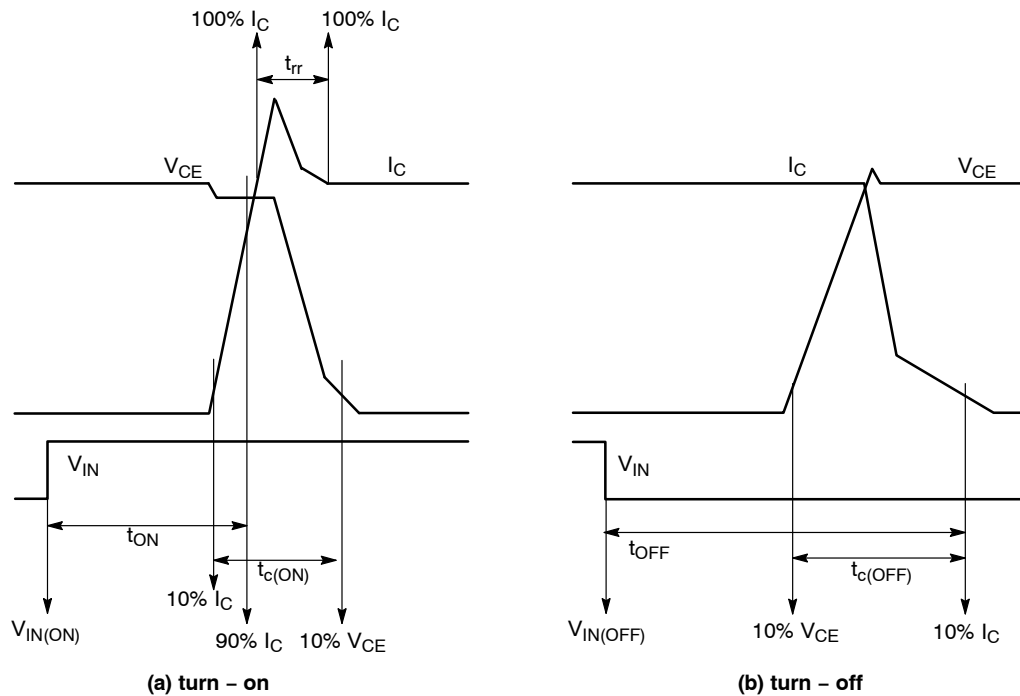

Figure 4. Switching Time Definition
6. t_{ON} and t_{OFF} include the propagation delay time of the internal drive IC. $t_{C(ON)}$ and $t_{C(OFF)}$ are the switching time of IGBT itself under the given gate-driving condition internally. For the detailed information see Figure 4.